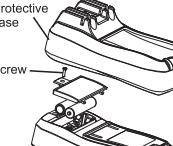
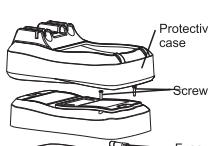

Figure 7a
Figure 7b
2. Replacements (see Figure 7a, Figure 7b)